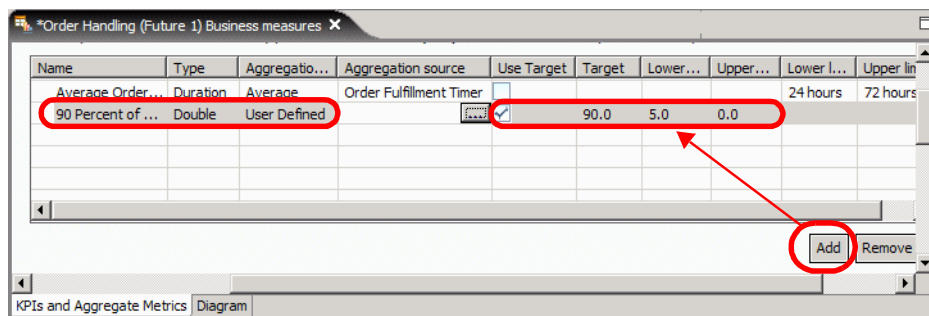

Figure 8-21 KPI 90 Percent of Orders Are Approved
- ▶ Select the *KPIs and Aggregate Metrics* tab (Figure 8-21).